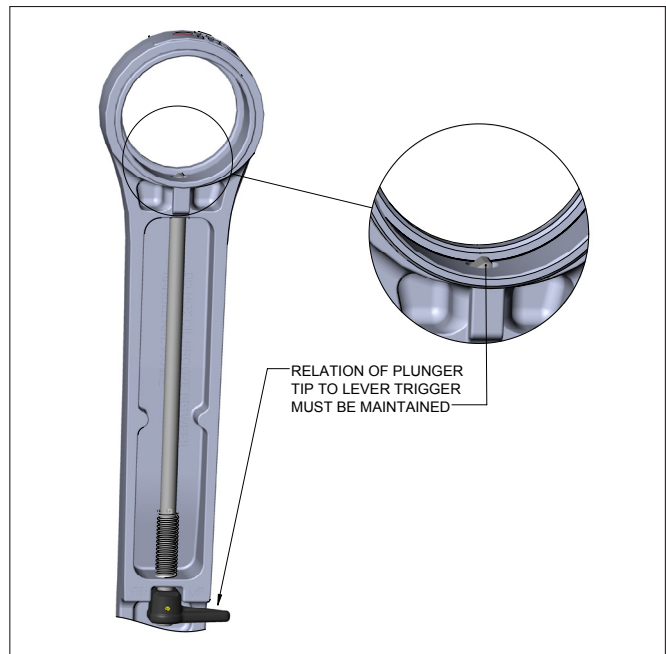

Figure 16. - Lever Assembly
- a. When assembling Lever Trigger be sure to maintain relation of Lever Plunger tip and Lever Trigger as shown in Fig. 16.